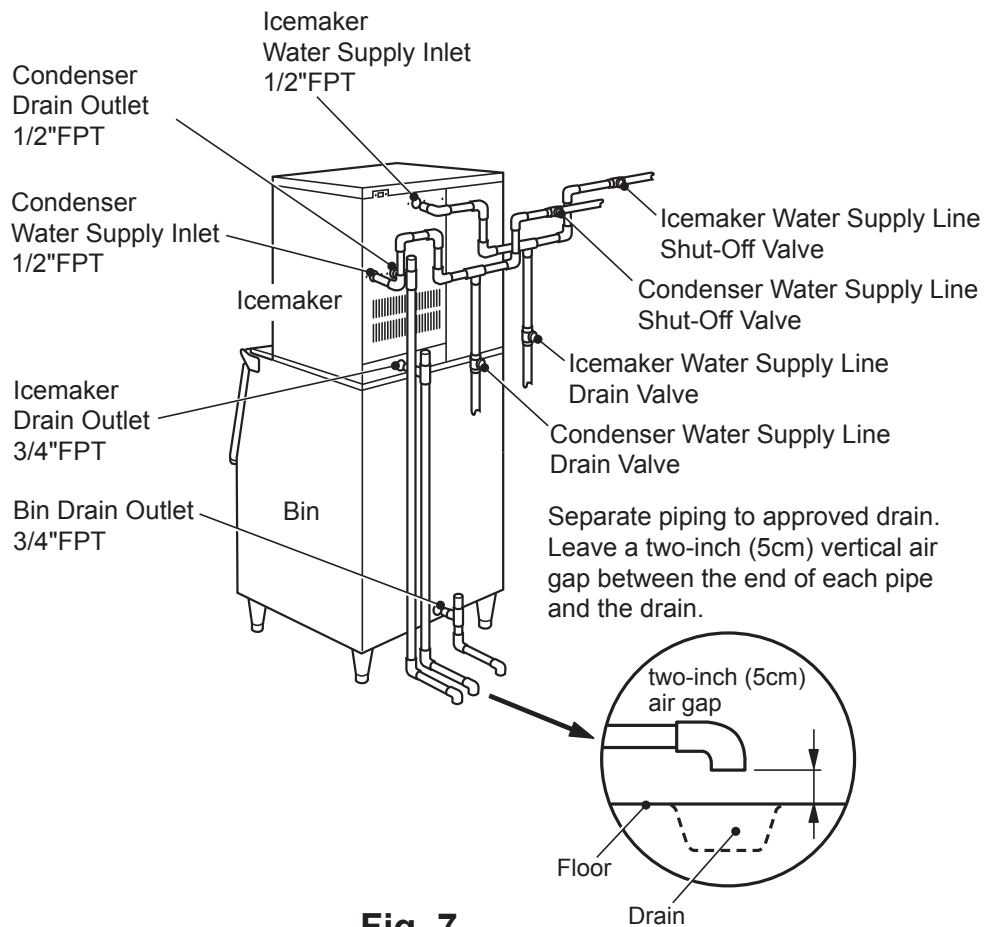

Fig. 7
G. Water Supply and Drain Connections - See Fig. 7